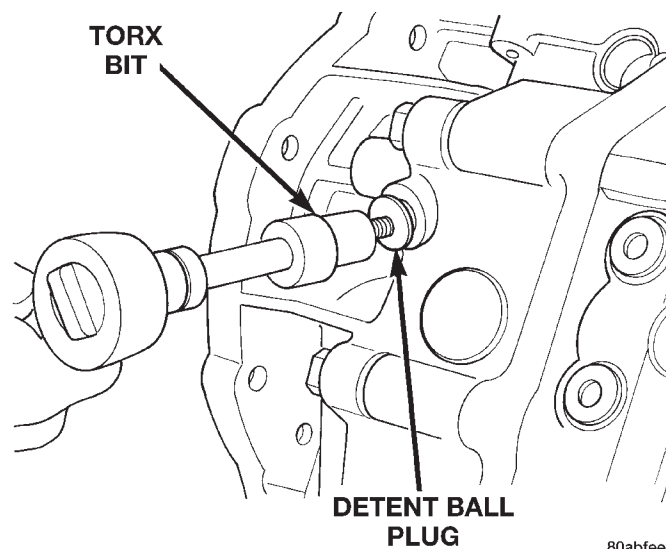

Fig. 19 Remove Detent Ball Plug
- (3) Install transfer case.
- (4) Check and add fluid to transmission as necessary. Refer to the Recommended Lubricant section for proper fluid requirements.
- (5) Lower vehicle.
- (8) Remove detent ball plug (Fig. 19).